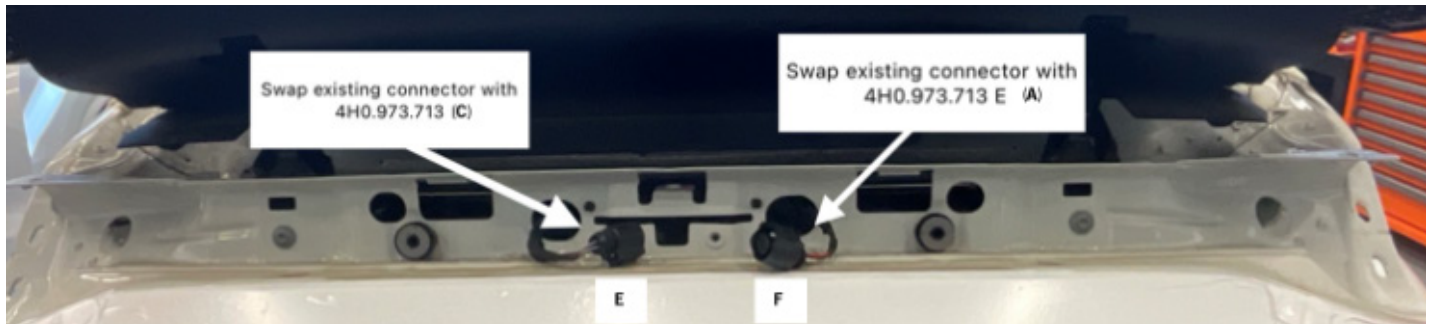

Figure 11. Center Taillight Area
2.3.1 Route to Taillight area in rear lid (Figures 11)
1. Per Figure 11, swap the current connector on the center taillight (E) with C from the driver-side outer taillight (4H0.973.713)
2. Swap the current connector on the center taillight (F) with A from the passenger-side outer taillight (4H0.973.713.E)